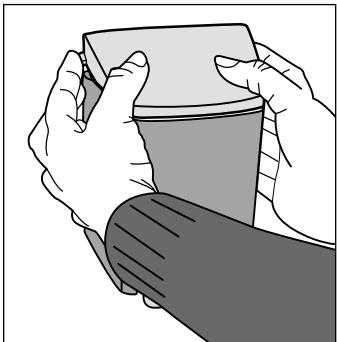

Figure 1
2. Back lid will pop off. (See Figure 1)